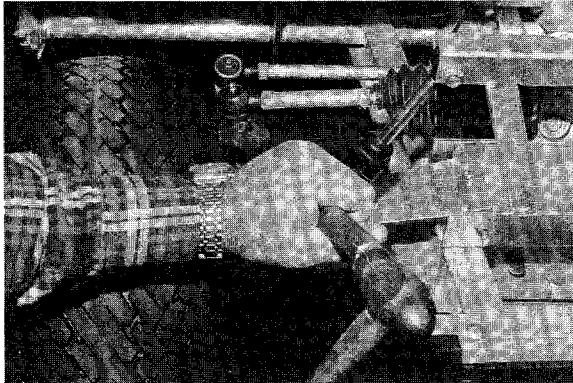
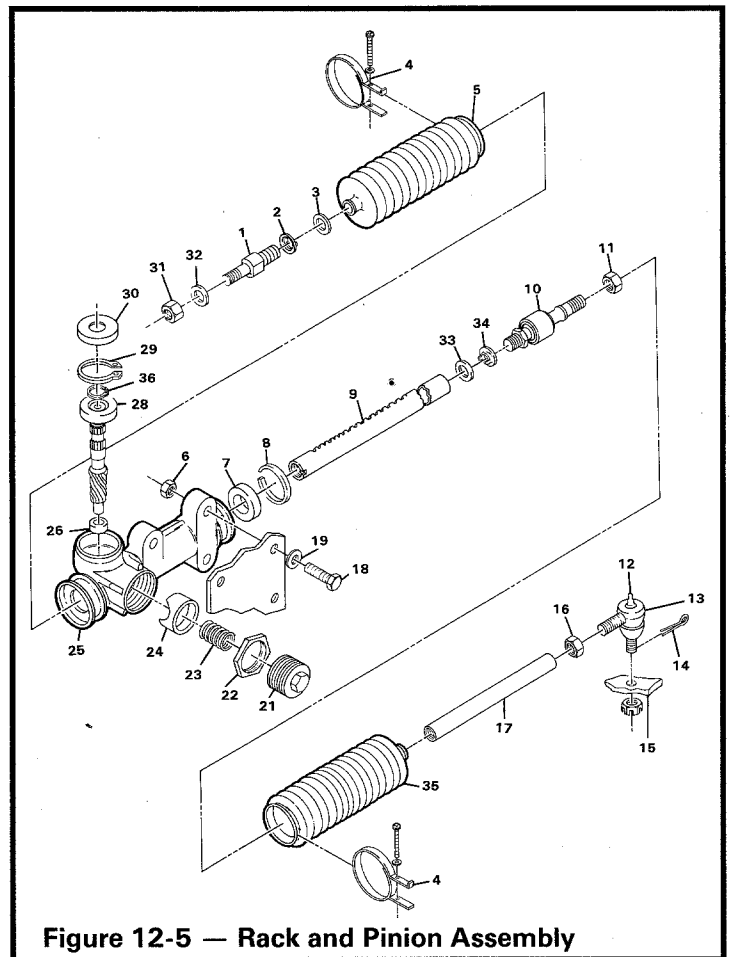

Figure 12-6
Figure 12-5 — Rack and Pinion Assembly
2. Reinstall column assembly through center dash panel using washers (45), nuts (16) and bolt (1) to attach column assembly to frame. Install the nuts on the bolts but do not tighten.
4. Install bolt (28) and lockwasher (27) on upper universal joint and tighten finger tight.
5. Tighten four nuts (13) to frame with 21-25 ft.-lbs. of torque.
6. Torque bolt (28) on upper universal joint to 21-25 ft.-lbs. (Figure 12-5).
1. Loosen nut (15) on bottom of ball joint (13) (Figure 12-5) and remove ball joint from hole in spindle, using ball joint removal tool (Figure 12-6).
2. Remove cotter pin (14) and ball joint retaining nut (15) (Figure 12-5).
3. Remove ball joint (13) from spindle assembly with ball joint removal tool (Figure 12-6).
4. Remove bolts (18), washers (19) and nuts (6) from steering rack assembly mounting bracket.